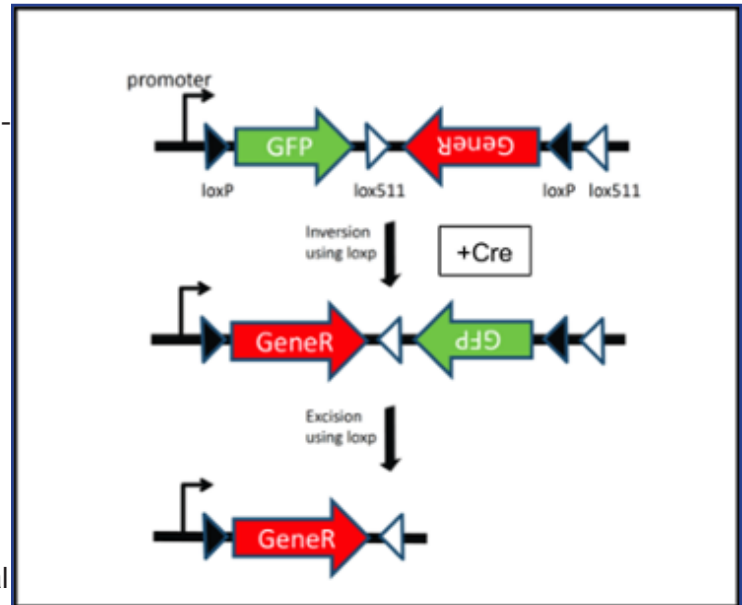

Figure 2. In the presence of Cre, GFP expression is lost, allowing for rescued expression of GeneR.
4. Remove the positive selection marker. Since an antibiotic resistance gene can affect a cell's phenotype, researchers usually remove it after selection using the Cre/Lox recombination system. After "floxing" the resistance gene through the insertion of flanking LoxP sequences, you can remove the gene through the addition of Cre recombinase (Figure 2).
Figure 2: A knockout targeting vector designed to insert and later remove a resistance gene. In this construct, the neomycin resistance gene is floxed so that it can be removed post-selection through Cre-mediated recombination.
Perhaps one of the most appealing features of the TAL effector arrays is the ease with which they can be made. Intuitively, one would expect that assembling relatively small, repeat-laden DNA regions into a single construct would be technically challenging. Thanks to efforts by the Bogdanove group and Daniel Voytas's group from the University of Minnesota, arrays can be assembled in a matter of days. In an open access Nucleic Acids Research article that came out in the spring of 2011, the groups describe a set of customized plasmids that can be used with the recently developed Golden Gate cloning method to assemble "multiple DNA fragments in an ordered fashion in a single reaction." Using these plasmids, which are available as a kit from Addgene, custom arrays consisting of 12-31 repeats can be assembled and inserted into a variety of backbones in just a few steps (**Figure 2**). The Bogdanove group also hosts web-based software to help scientists find potential TAL effector targets.
Figure 2: Simplified representation of the Voytas/Bogdanove Golden Gate TALEN kit. In this example, the final array is composed of 18 TAL effector repeats. The kit can be used to make arrays from 12-31 repeats.
- **Conditional Rescue for a Gene Knockout:** To test if the phenotype you are observing is really due to a single gene deleted in your knockout mouse, you can design a FLEEx switch conditional knock-in cassette that uses Cre to activate gene expression as shown in Figure 2. The cassette should contain a reporter DNA sequence (such as GFP) in the sense orientation, followed by coding sequence of the gene you would like to res-